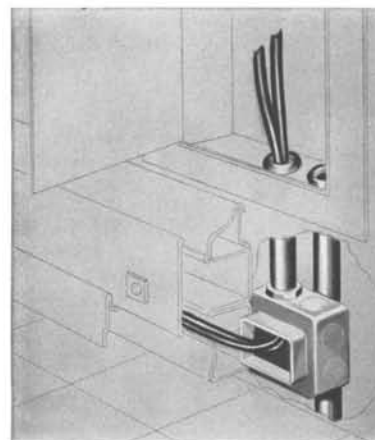

FIG. 5—METAL BASEBOARD RACEWAY
- With this system, the usual baseboard has been replaced with a metal wall raceway (see Fig. 5).